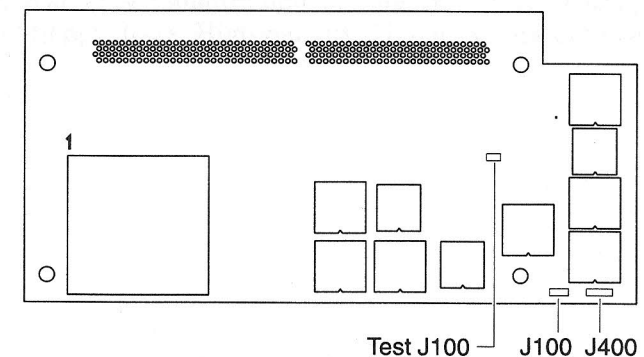

Figure C-4. 68040 Processor Card Jumper Locations
4. Locate the jumper on the motherboard (Figure C-2), disks module board (Figure C-3), or processor board (Figure C-4). Use the drawings in this chapter as you look at the actual board.